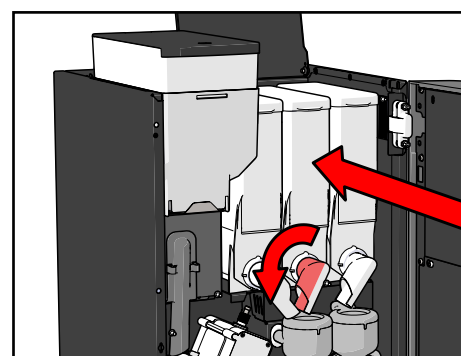

Figure 10.
5. Replace the canisters in the machine (see Figure 10).